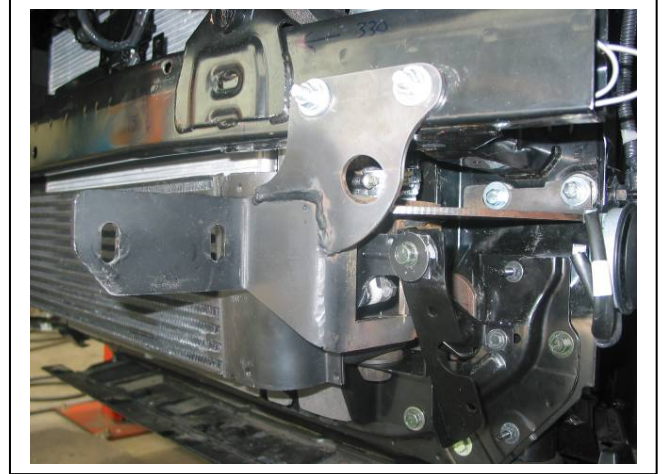

Figure 6 – Mount fitted on vehicle body
11. Fit ECB Steel mounting brackets (supplied) to radiator support panel using M8 x 40mm bolts, spring washers and flat washers (supplied). Place 30mm steel washers (supplied) between top holes in mounts and vehicle. **FINGER TIGHTEN ONLY. See figures 6 and 7. NOTE:** Intercooler mount bracket protrudes through opening in centre of ECB Steel mount brackets.